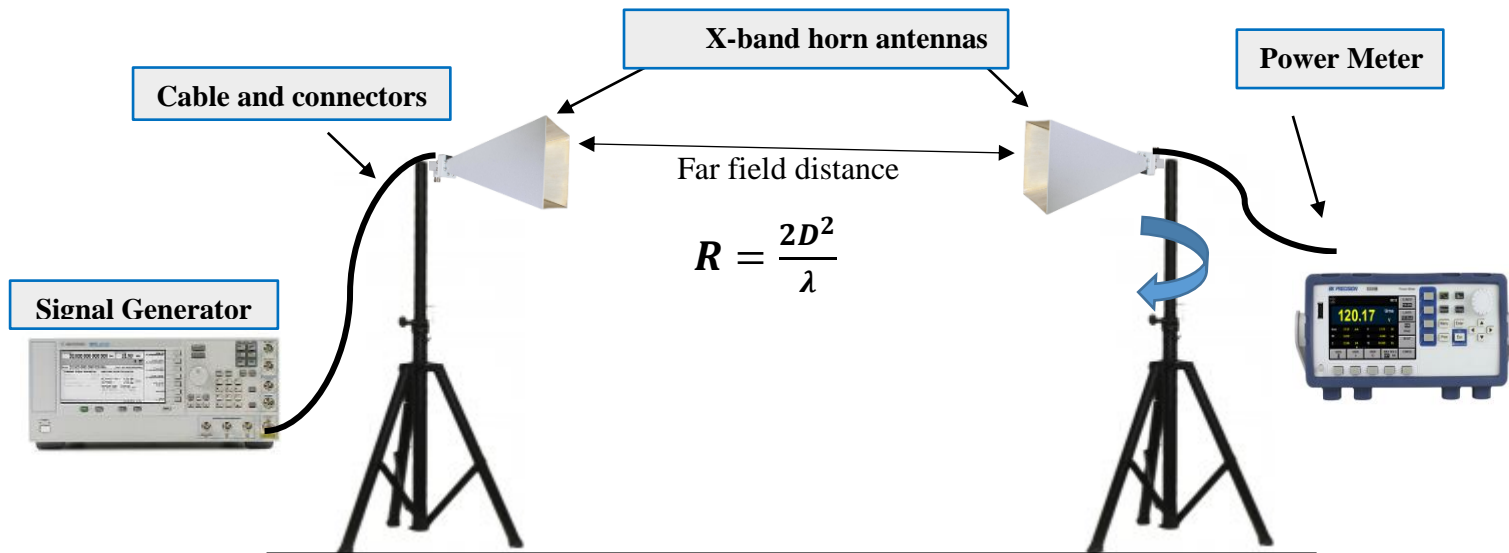

Fig. 10.1. Experimental set-up to measure the gain of an antenna.
1. Set the component and equipment's as shown in Fig.10.1